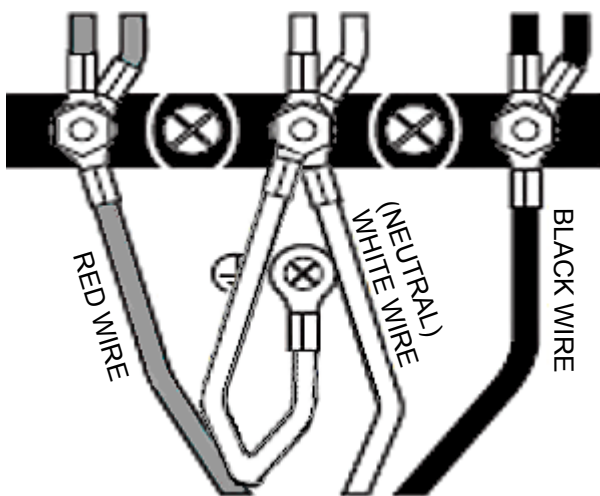

Figure 18: 3-Wire Connection
3. Secure the neutral, grounded wire of the supply circuit, to the center stud (silver colored) of the terminal block (see *Figure 18*).